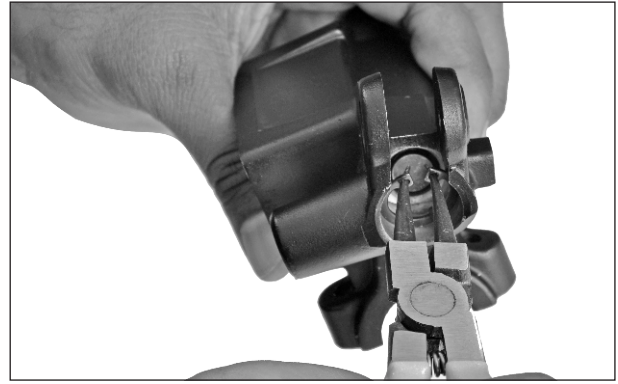

Fig. 6.41
- Holding the master cylinder by hand slightly press the piston with thumb finger and remove the circlip from the master cylinder using a circlip plier without damaging the piston and the cylinder. (Fig. 6.41)